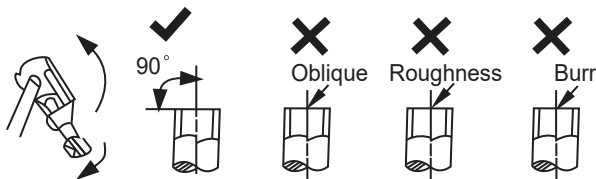

Fig. 27 — Pipe Cutting
- a. Cut the pipe, with a pipe cutter, at 90 degrees (see Fig. 27).